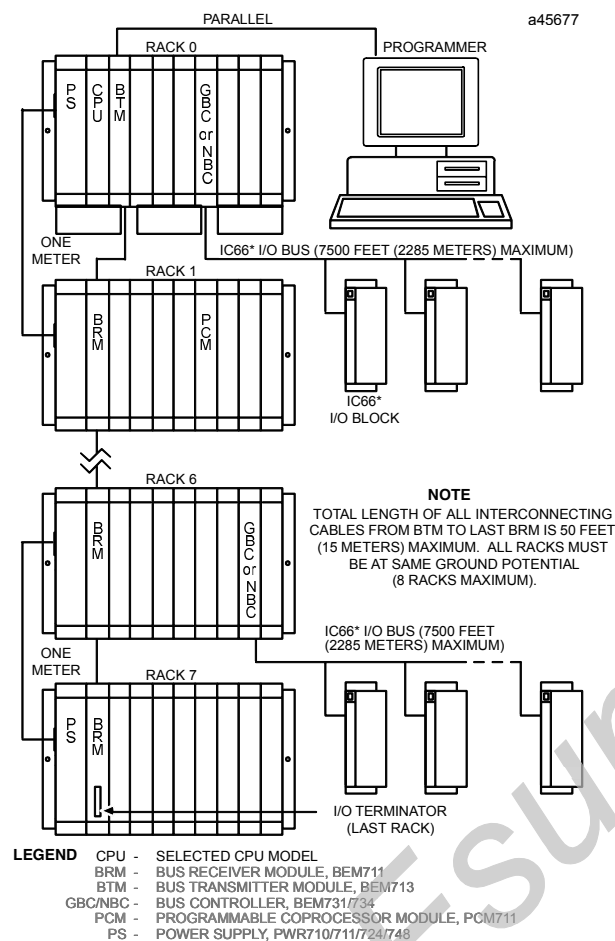

Figure 1. PLC System Configuration Example
- Install the CPX 928 module in slot 1 of rack 0 (see Figure 1).
For a parallel interface (MS-DOS programmer only) the programmer is connected to the top port on the Bus Transmitter Module (IC697BEM713) as shown in Figure 1. Consult the applicable *Programming Software User's Manual* for a description of programming functions.